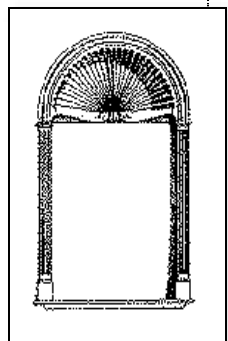

Figure 5
- Level/plumb casing and nail in place. (figure 5)